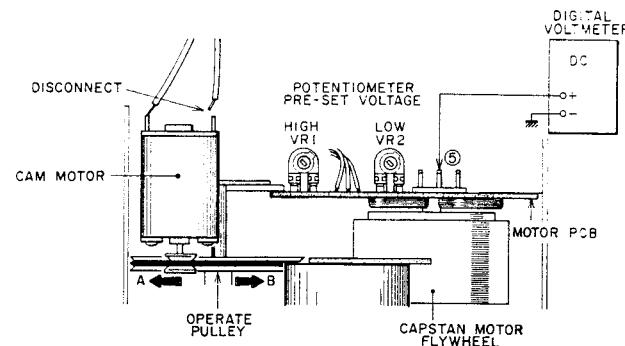
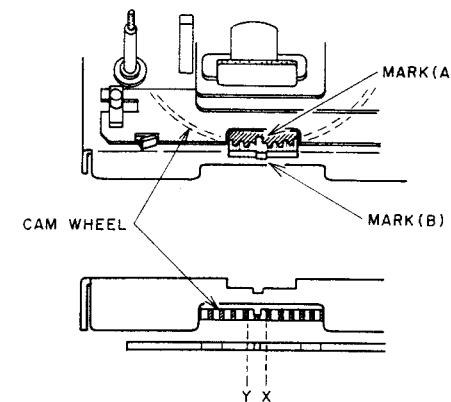

Fig.4-4.
Fig.4-5.
4-4. POTENTIOMETER PRESET VOLTAGE ADJUSTMENT (Refer to fig.4-4 to 4-5)
- Connect the digital voltmeter as shown in fig.4-4.
- With power ON, adjust VR2 so that the voltage reading will be 1.15V (DC).
- With power ON, adjust VR1 so that voltage reading will be 9.08V (DC).
- b. Adjust VR1 slightly so that the center of Marker (A) coincides with the center of Marker (B) (should be within the range between X and Y) at STOP Mode as shown in Fig. 4-5. (The marker (STOP) on the CAM WHEEL can be seen clearly by lighting it from the back.)